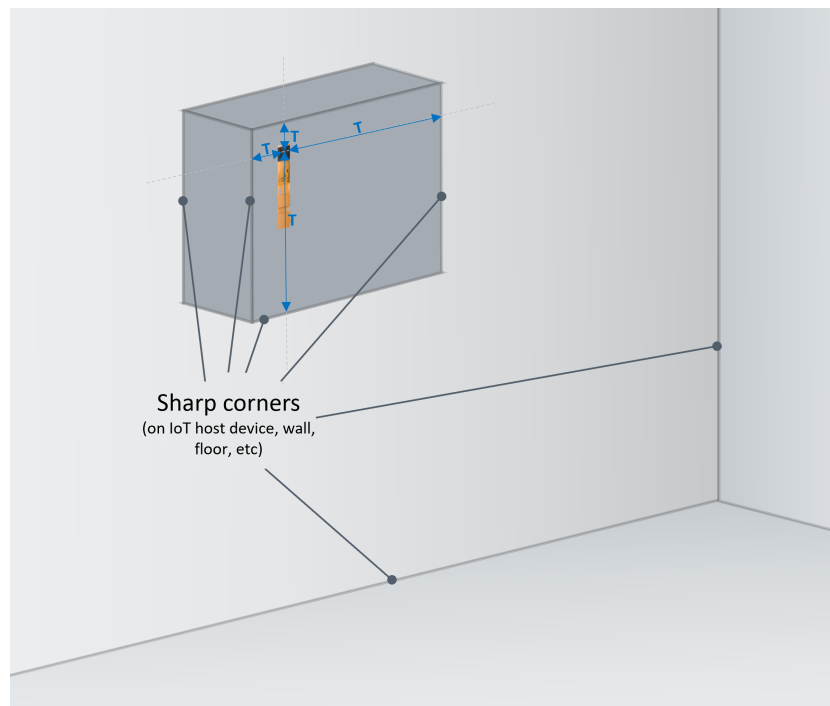

Figure 13: Placement of BMV080 away from sharp edges
- **Sensor location in the host system:** place the BMV080 minimum 17 mm away from sharp edges to avoid turbulent air flows that could affect the sensor performance, see Figure 13.